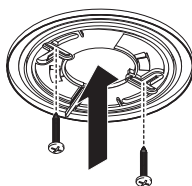

FIGURE 6
1. Place mounting bracket on ceiling or wall in prearranged location and use a pencil to trace two opposing hole positions for mounting screws. Drill two holes using a 1/16 in. (1.5mm) drill bit. See Figure 6.
2. Use mounting screws provided for attaching to studs or woodwork. For plaster or plasterboard, you may wish to use plastic anchors and screws. In this case, drill two holes using a 3/16 in. (5mm) drill bit in the centers of the hole locations and insert anchors into holes. See Figure 6.